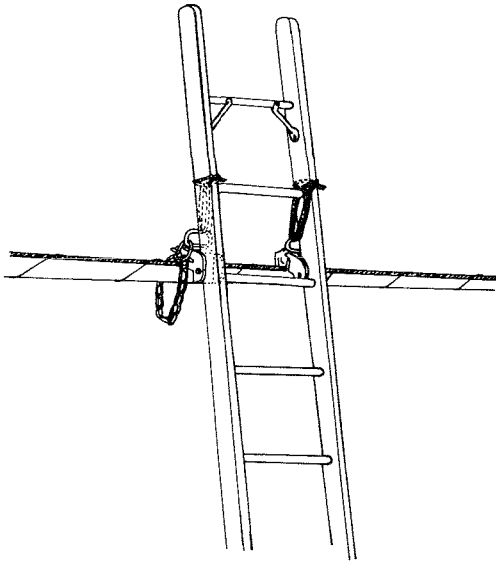

Fig. 18 — Ladder Attached to Strand with B Ladder Support Clamps
6.19 The clamp assemblies of the B Ladder Support may be used to attach an extension ladder to the strand. The large loop on the top edge of the clamp provides a means for lashing the ladder to the clamp with $\frac{1}{2}$ -inch manila rope. The rails of the ladder are placed in the channels of the clamps to hold the ladder away from the cable. Fig. 18 shows the method of using the clamp assemblies to attach an extension ladder to the strand.